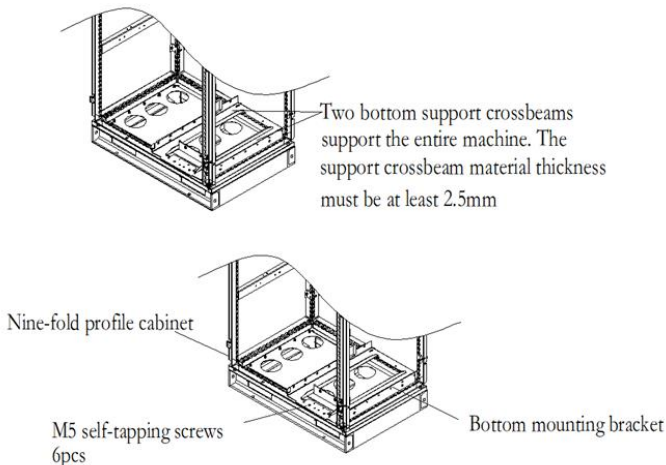

Figure 4-13 Bottom bracket mounting
| 2   | Fix the bottom support crossbeams and mounting bracket in the cabinet. (See Figure 4-13.)   |
2. Fix the bottom support crossbeams and mounting bracket. (See Figure 4-13.)